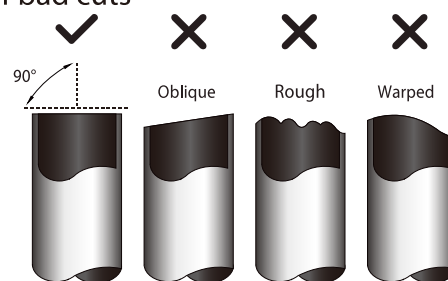

Fig. 6.4
- Make sure that the pipe is cut at a perfect 90° angle. Refer to Fig. 6.4 for examples of bad cuts